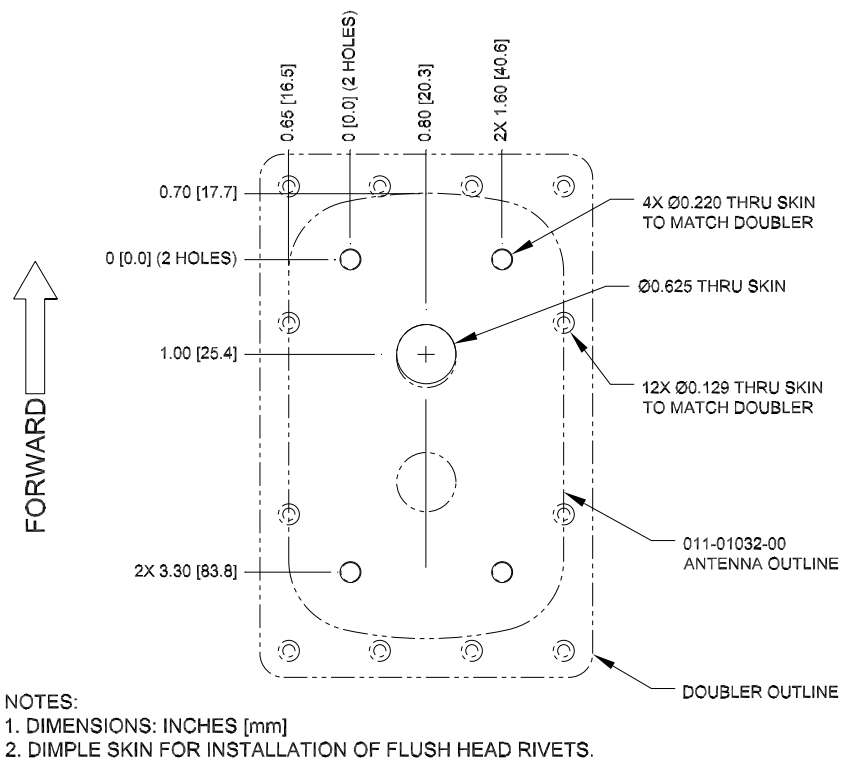

Figure 6-18. Skin Cutout Detail, ARINC 743 Footprint Antenna, Skin Thickness 0.032" to 0.049"
3. When using Garmin P/N: 115-00846-00 doubler, sixteen rivet holes exist in the part. For installation of Garmin P/N: 115-00846-00 in skins of thickness between 0.032" and 0.049", only the rivets identified for use through the skin cutout detail (Figure 6-18) and doubler installation (Figure 6-21) are required.